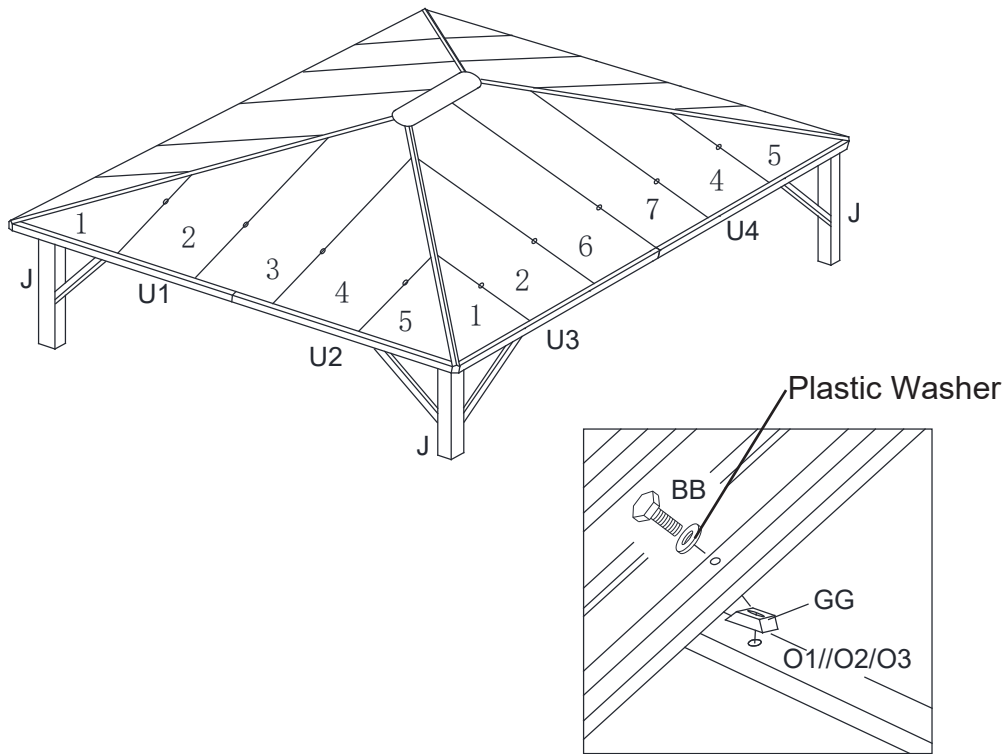

Fig.19
Attach all the roof panels show as Figure to Roof Support (O1/O2/O3) with Bolt/Plastic Washer M6*25(BB) and Spacer (GG).Repeat on each side.See Fig.19.Tighten all bolts.